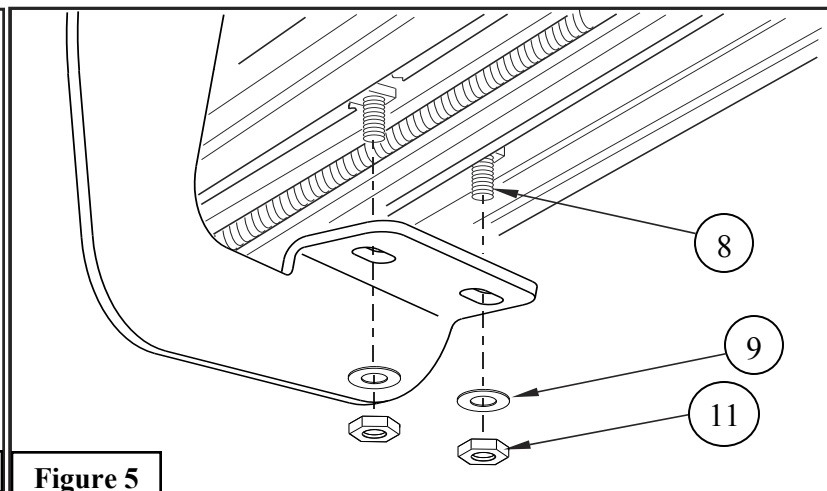

Figure 5
5. Attach board to brackets as shown. Make sure board and brackets are properly aligned and tighten fasteners. Recommended torque values are 10 ft-lbs. for M8 square head fasteners and 18 ft-lbs. for M8 Hex head bolt. See **Figure 5**. **Note:** For lighted version of Step board, remove plastic cover from each end of under side of the Step board. Proceed to **Steps 6 & 7**.